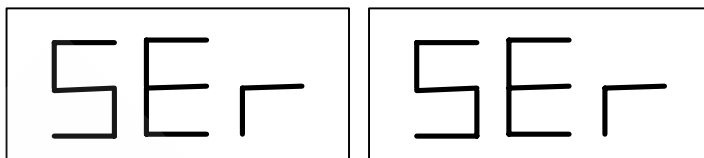

Fig. F9.1 SERVICE mode enabled
2. Press [F+P3]. The machine enters the SERVICE mode and will display the Ser Ser messages. See figure F9.1.
3. To exit the SERVICE mode, you must first exit any Menus and test programs and return to the messages display shown in Figure F9.1;